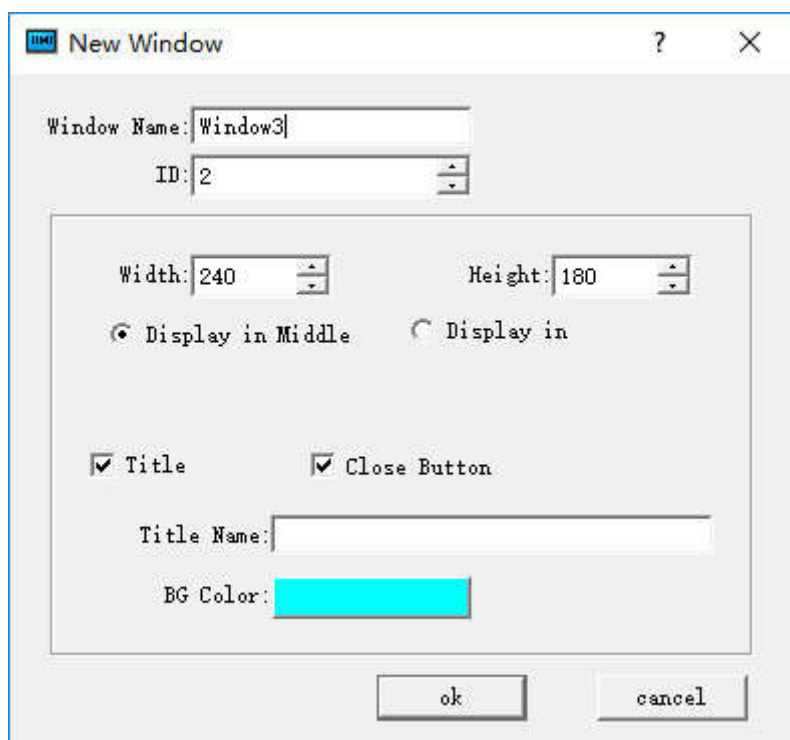

Figure 4-2 Add screen dialog
2. In the pop-up "New Screen" dialog box, set the name and background color of the new screen, then click OK. The default name of the new screen is a screen number; the default background color is blue, as shown in Figure 4-2: